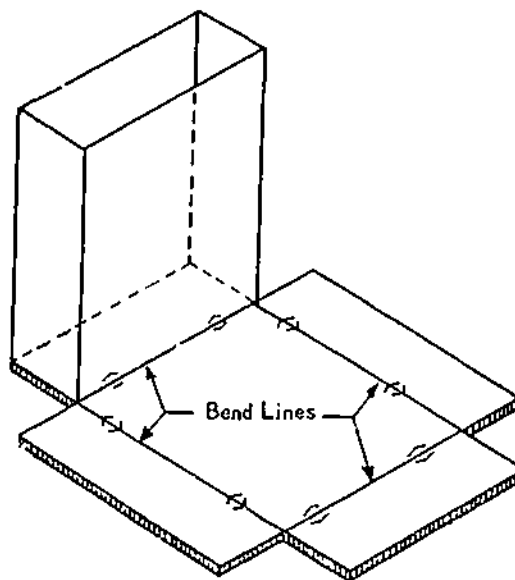

Figure 5-22. Unfolding of Square Bends
2. Unfolded in the case of square bends (Figure 5-22).